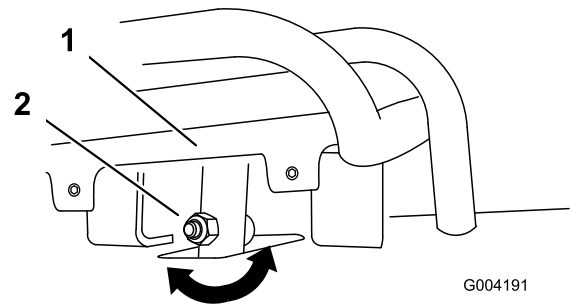
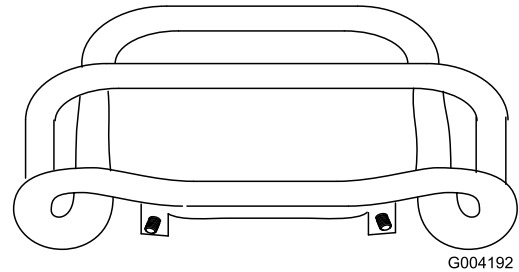

Figure 53
Figure 54
4. If the front of the traction control does not rest square and flush with the reference bar, loosen the flange nut and bolt in the stem of the traction control (Figure 53).
5. Adjust the traction control so that it rests flush against the reference bar when it is pulled straight back (Figure 53 and Figure 54).
- C. Loosen the flange nut and bolt in the stem of the traction control (Figure 53).
- I. Adjust the traction control so that it rests flush against the reference bar when it is pulled straight back (Figure 53 and Figure 54).